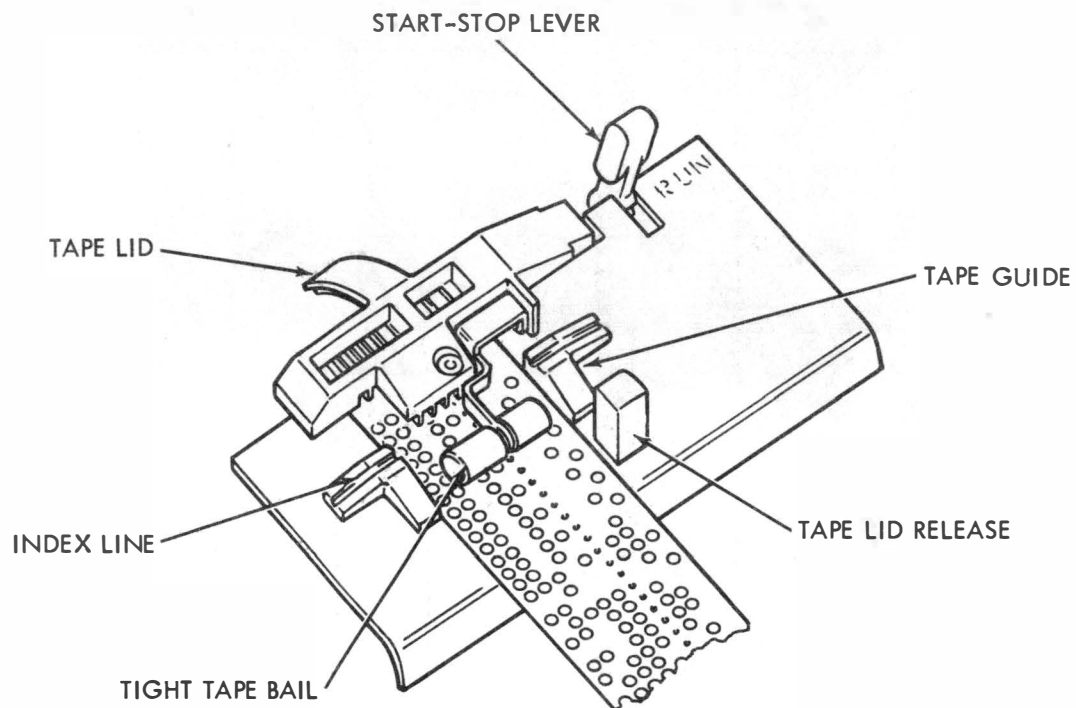

Figure 4 - Tape Guide Plate
- 1.09 A pair of adjustable guides are provided for aligning and locating tape over the feed wheel. Figure 4.